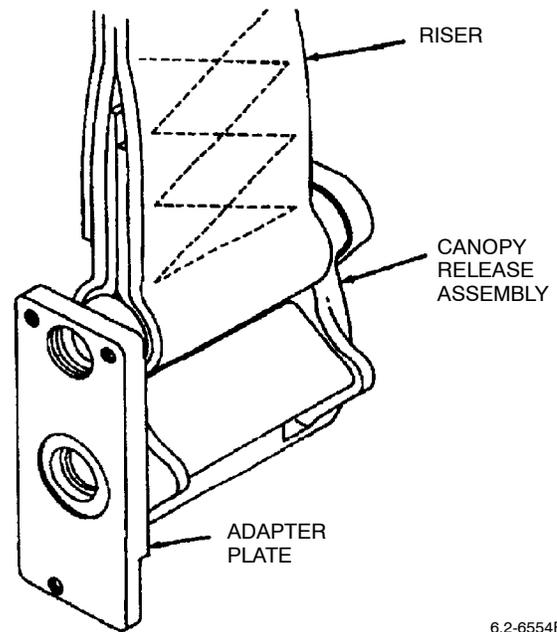

Figure 24. Placement of Riser and Sleeve
b. Place riser and sleeve between arms of canopy release (Figure 24).